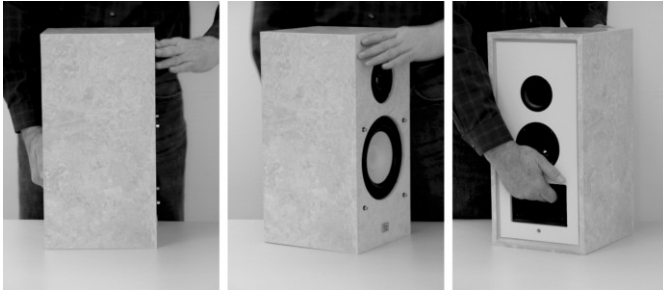

Fig. 8
- 6a. Using the recessed handles in the backs of cabinets A and C, insert right or left hand into handle, steady the top of the cabinet with your other hand as noted in *Fig. 8*, carefully perform a test lift to ensure you can safely carry the cabinet. If in doubt, seek help.